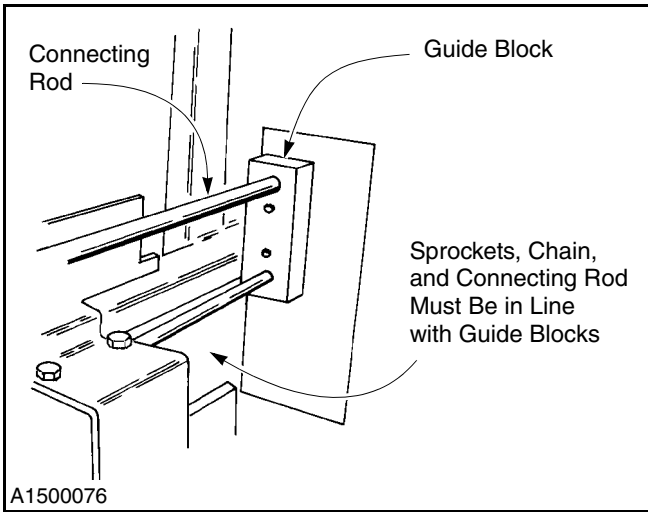

Figure 15
5. Check the drive sprocket, adjustment sprocket, drive chain, connecting rods, and guide blocks. They should all be aligned and the guide block should be tightly secured. (See Figure 15.)